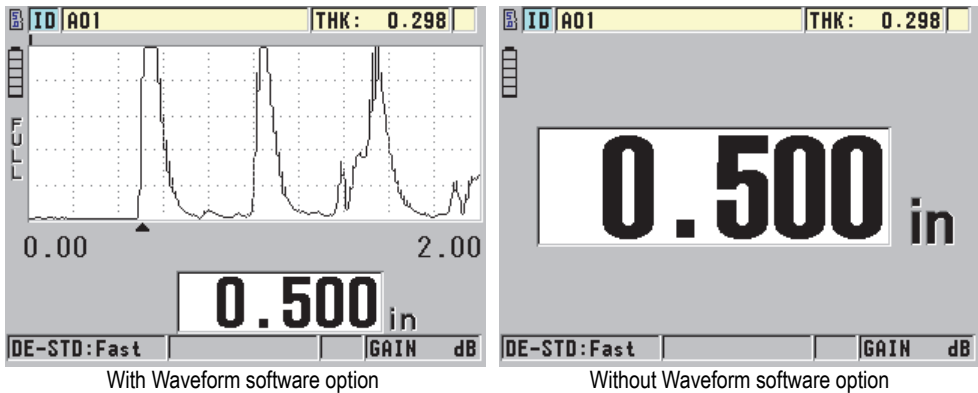

Figure 5-12 Reading the measured thickness
- Read the measured thickness value for the tested part (see Figure 5-12 on page 67).